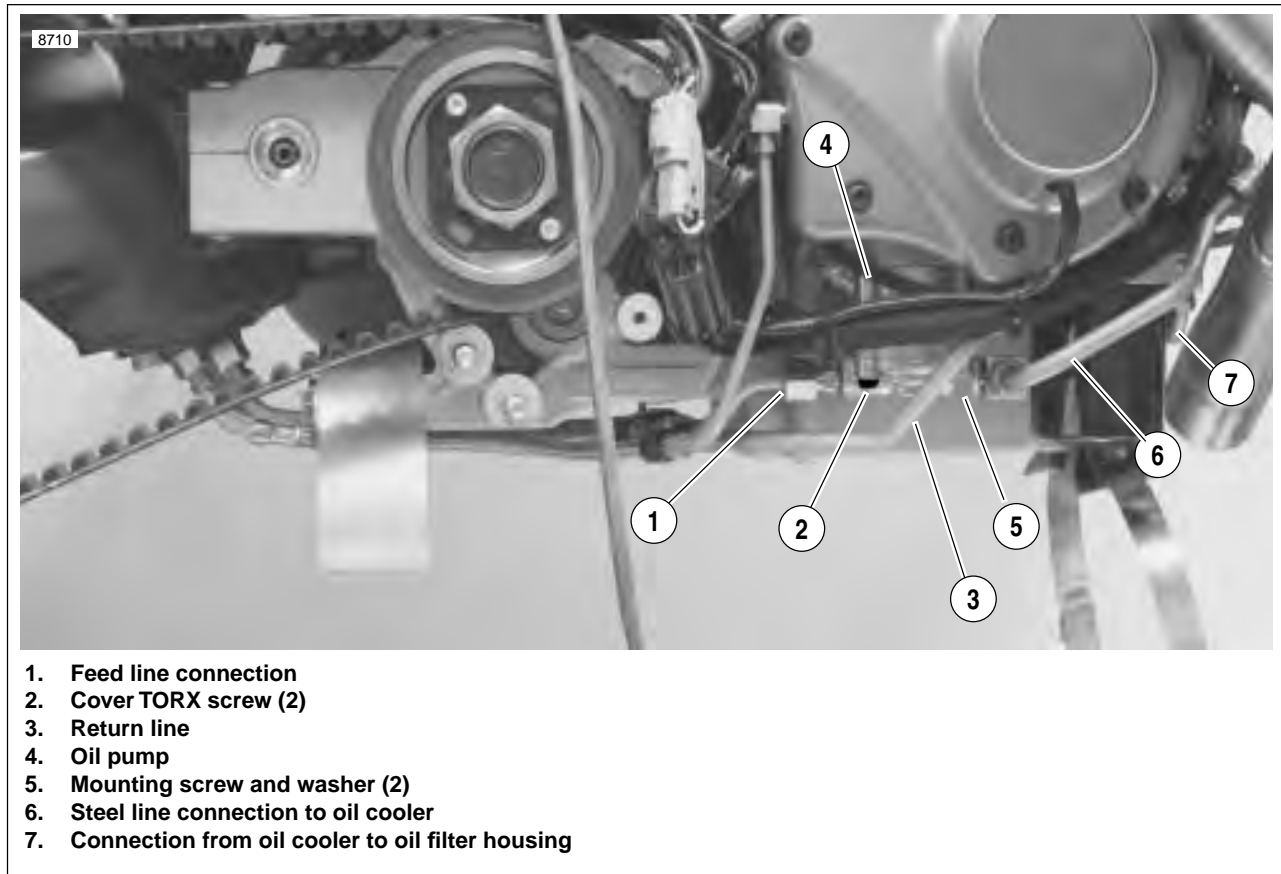

Figure 3-117. Oil Pump Hardware
3. See Figure 3-117. Disconnect feed line connections (1, 6) on both sides of the oil pump.
4. Detach return line connection (3).
5. Carefully remove mounting screws (5) and washers only. Pump will drop with screws removed. Discard mounting gasket.
6. Remove cover TORX screws (2). Lift cover off body.
10. See Figure 3-117. Attach return line connection.